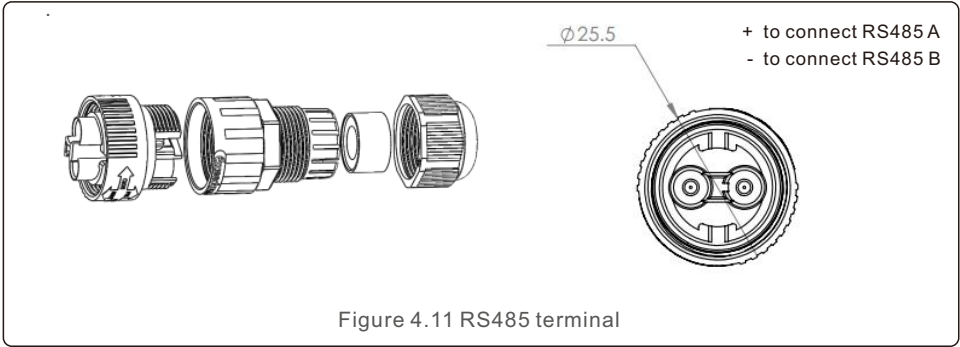

Figure 4.11 RS485 terminal
- a. Refer to figure 4.11, the RS485 terminals for inverter and EPM are already assembled.